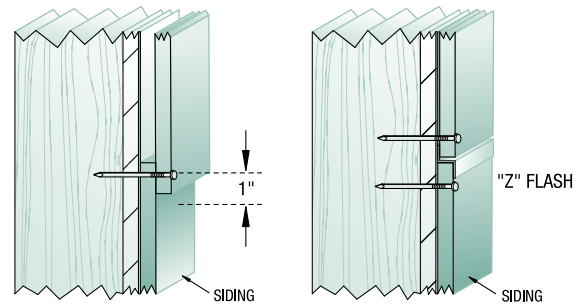

FIG. 4
- Although not recommended, where 24" o.c. vertical framing is used, wood-based sheathing is required. Follow product specific nailing pattern (see Fig 4) and nail to framing 24 o.c. with intermediate nailing 12 o.c. to sheathing.
- At horizontal joints with stacked panels or other types of siding, overlap siding 1" or use Z flashing and fasten as shown. *See Fig 4.*